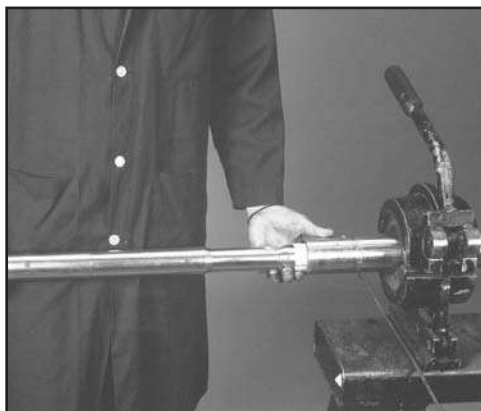

FIG. 72: INSERT PISTON
1. Position the front slide tape in the groove on the piston and begin to insert the piston (see Fig. 72).